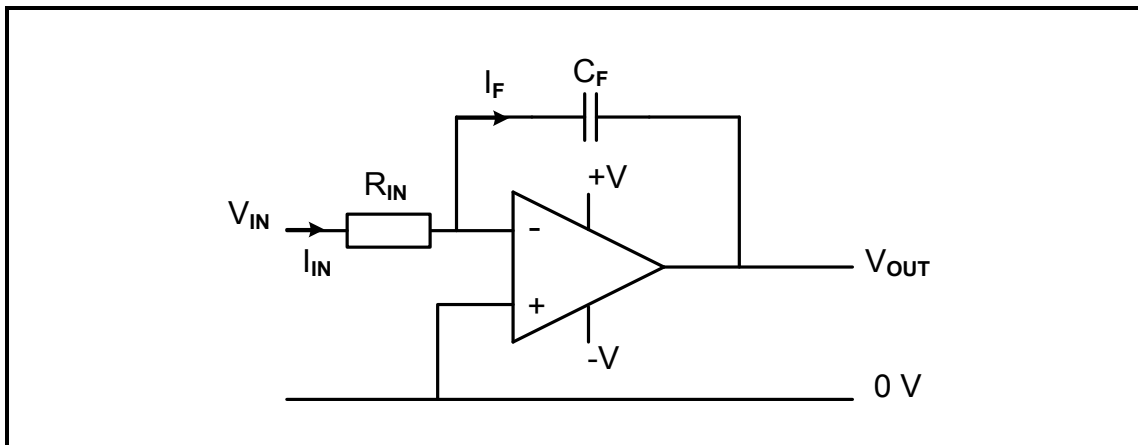

FIGURE 2.9: OP AMP AS INTEGRATOR
2.9 Refer to FIGURE 2.9 below and answer the questions that follow.